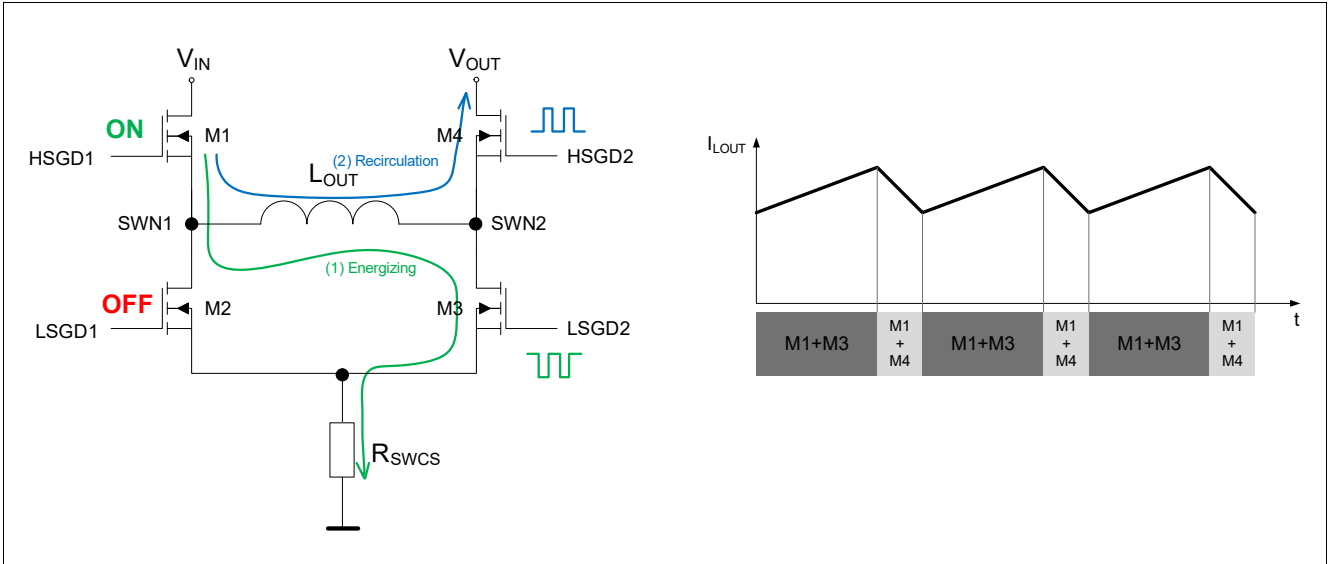

Figure 12 4 switches H-Bridge architecture in BOOST mode
- Switches M3 and M4 alternate, behaving like a typical synchronous boost Regulator (see **Figure 12**)